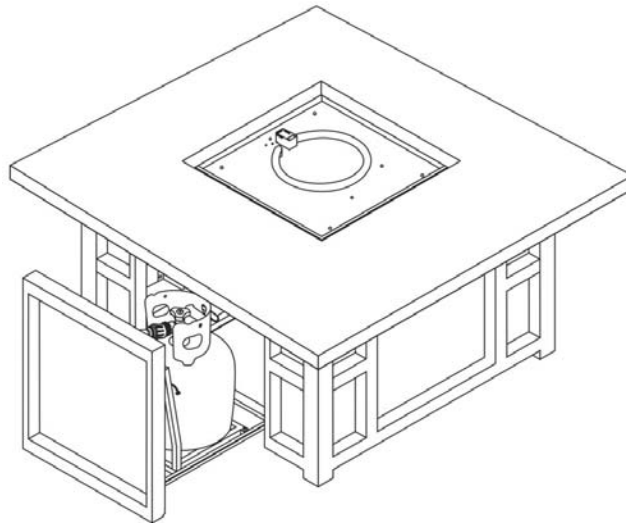

**Figure 10**
4. Remove any lava rock from the ignition well as shown in Fig. 10.